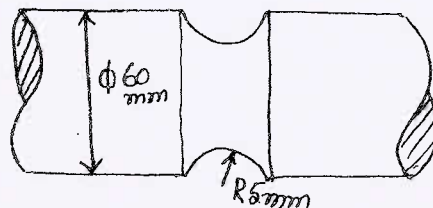

Fig.Q2(b)
b. Determine the maximum stress induced in the semi circular grooved shaft in Fig.Q2(b) if it is subjected to: